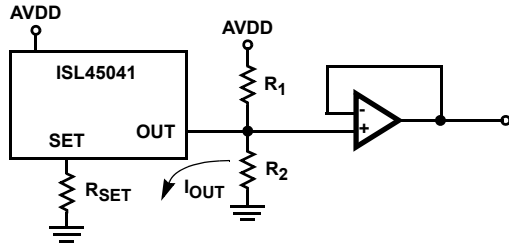
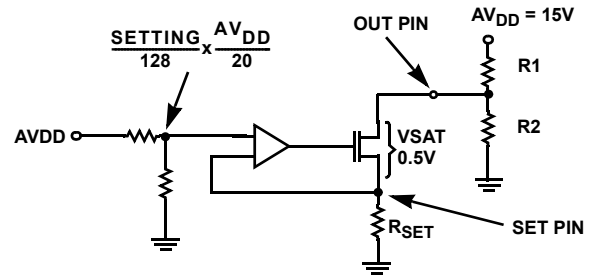

FIGURE 1. OUTPUT CONNECTION CIRCUIT EXAMPLE
FIGURE 2. OUTPUT CONNECTION CIRCUIT EXAMPLE
Electrical Specifications Test Conditions: V_{DD} = 3.3V, AV_{DD} = 18V, R_{SET} = 5k Ω , R1 = 10k Ω , R2 = 10k Ω ; (See Figure 1) Unless Otherwise Specified. Typical values are at T_A = +25°C. **Boldface limits apply over the operating temperature range, 0°C to +85°C.**
Electrical Specifications Test Conditions: $V_{DD} = 3.3V$, $AV_{DD} = 18V$, $R_{SET} = 5k\Omega$, $R_1 = 10k\Omega$, $R_2 = 10k\Omega$; (See Figure 1) Unless Otherwise Specified. Typical values are at $T_A = +25^\circ C$. **Boldface limits apply over the operating temperature range, $0^\circ C$ to $+85^\circ C$.** (Continued)
- A typical Current of 20 μA is Calculated using $AV_{DD} = 10V$ and $R_{SET} = 24.9k\Omega$. Reference "R_{SET} Resistor" in Figure 2.
The external R_{SET} resistor sets the full-scale sink current, I_{SET} maximum, that determines the lowest voltage of the external voltage divider R₁ and R₂ (Figure 1). The voltage difference between the OUT pin and SET pin (Figure 2), which are also the drain and source of the output transistor, must be greater than 1.75V. This will keep the output transistor in its saturation region to maintain linear operation over the full range of register values. Expected current settings and 7-bit accuracy occurs when the output MOS transistor is operating in the saturation region. Figure 2 shows the internal connection for the output MOS transistor. The value of the AV_{DD} supply sets the voltage at the source of the output transistor. This voltage is equal to (Setting/128) × (AV_{DD}/20). The I_{SET} current is therefore equal to (Setting/128) × (AV_{DD}/20 × R_{SET}). The drain voltage is calculated using Equation 2. The values of R₁ and R₂ (Equation 2) should be determined using I_{OUT} maximum (setting equal to 128) so the minimum value of V_{OUT} is greater than 1.75V + AV_{DD}/20.